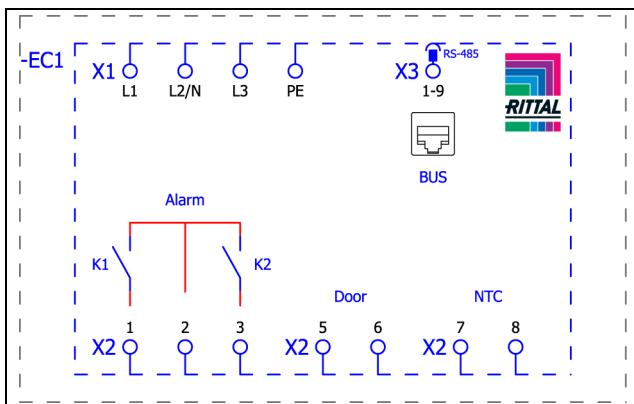
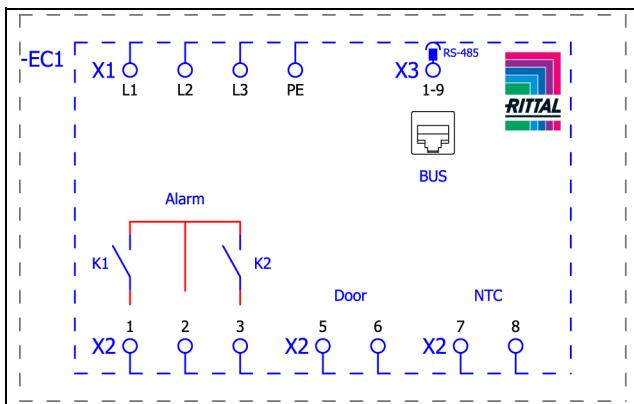

Fig. 17: Circuit diagram SK 3186x3x, SK 3187x3x and SK 3185x3x
Fig. 18: Circuit diagram SK 3188x4x and SK 3189x4x
- Remove the mains connector from the dispatch bag and connect to the mains as shown on the connection diagram (fig. 17 or fig. 18).